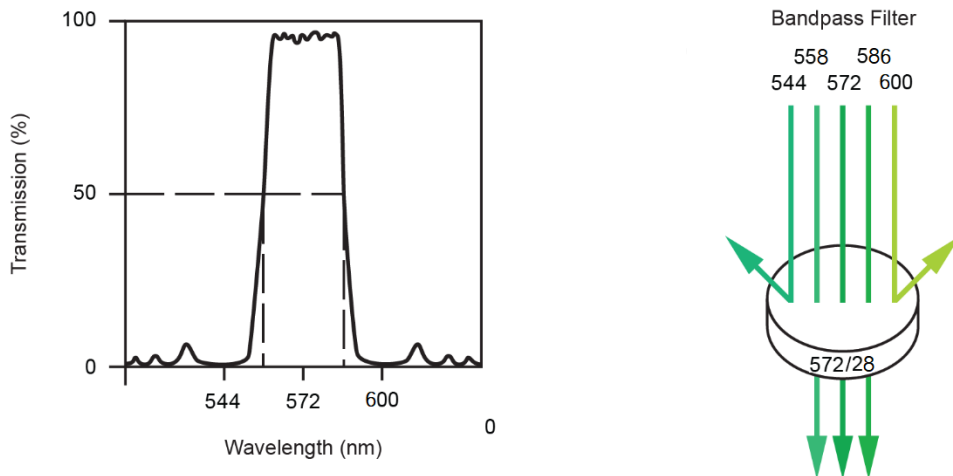

Figure 5. 572/28 nm Bandpass Filter
A bandpass (BP) filter transmits a relatively narrow range or band of light. Bandpass filters are typically designated by two numbers. The first number indicates the center wavelength and the second number refers to the range of the light wavelength that is passed through. For example, a 572/28 BP filter transmits light that is centered at 572 nm and has a total bandwidth of 28 nm. Therefore, this filter transmits light between 558 nm and 586 nm as shown in Figure 5.